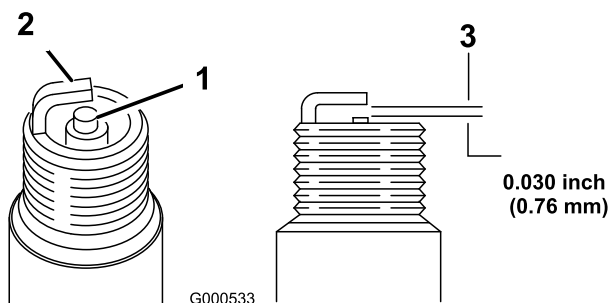

Figure 17
5. Set the gap on the plug to 0.76 mm (0.03 inch) as shown in Figure 17.